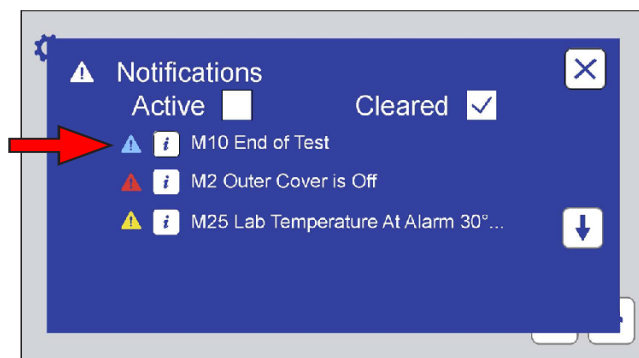

Figure 9.4b: The Notifications Screen lists notification information.
- The type, information icon, identification code (ex. M10), and name are displayed for each notification (Figure 9.4b).